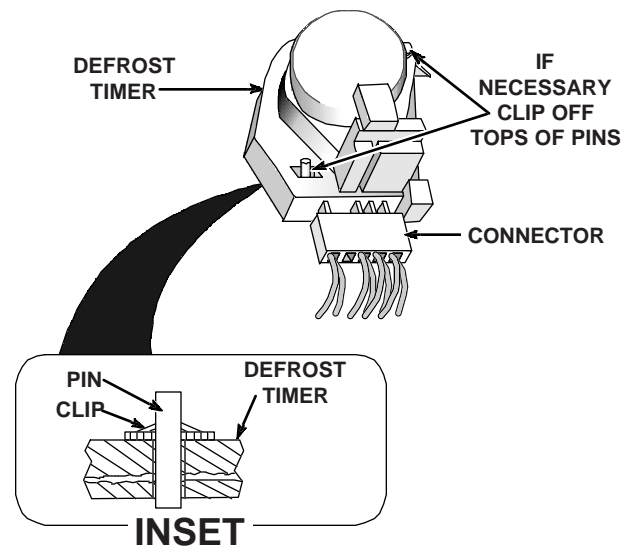

Fig. 70
1. Remove the two (2) clips from the pins securing the defrost timer to the control box. In some cases it may be necessary to clip off the tops of each pin. (Fig. 70, Inset) Lift the defrost timer out of the control box.